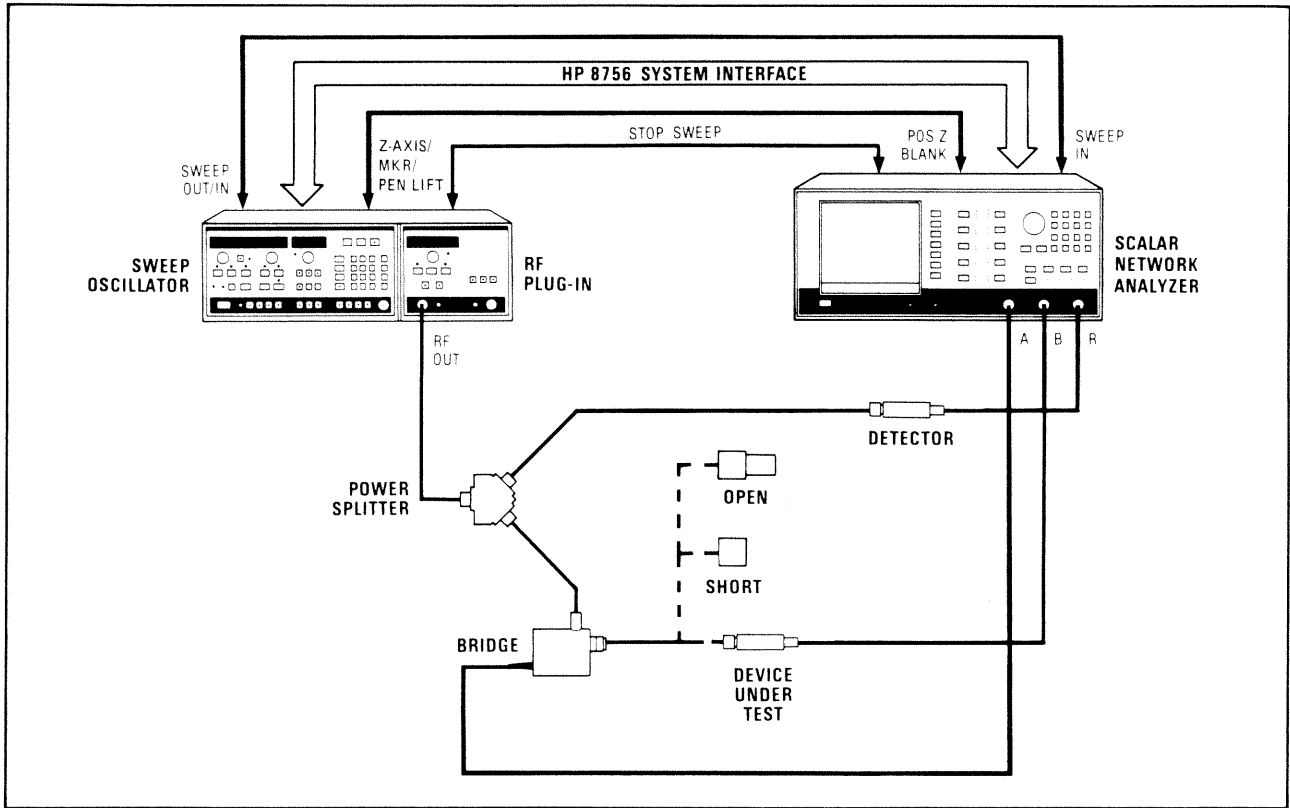

Figure 4-1. Return Loss Test Setup
1. Set up equipment as shown in Figure 4-1, with nothing connected to the bridge **TEST PORT**. Press [**PRESET**] on the HP 8756A. This will preset both the HP 8756A and the HP 8350B (this will turn the HP 8350B [**MOD**] on and set the sweep time to 200ms). Allow 30 minutes warm-up.